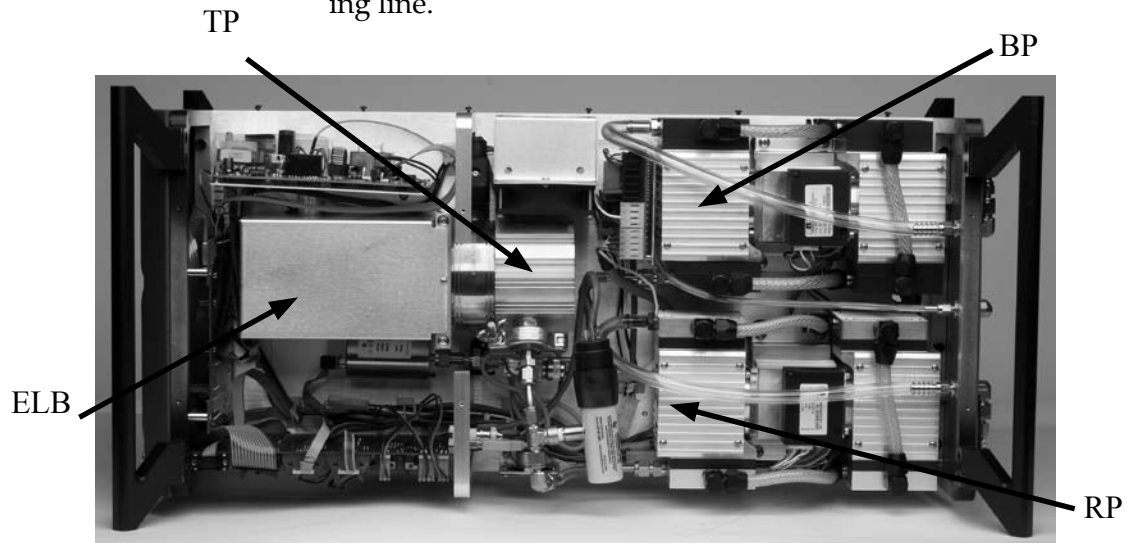

Figure 1-7a. Bottom view of UGAHT - component configuration
pacitor manometer (CM), Pirani gauge (PG), Ion gauge (IG), roughing line, part of bypass line, Main control PCB, Auxiliary control PCB, Ion gauge control PCB, TP control PCB, a speaker, and a TP cooling fan. On the elbow, a heater for system baking is attached. The elbow area is surrounded with an insulating box. (Fig. 1-7a) PVC tubes are used to connect exhaust lines and the system venting line.